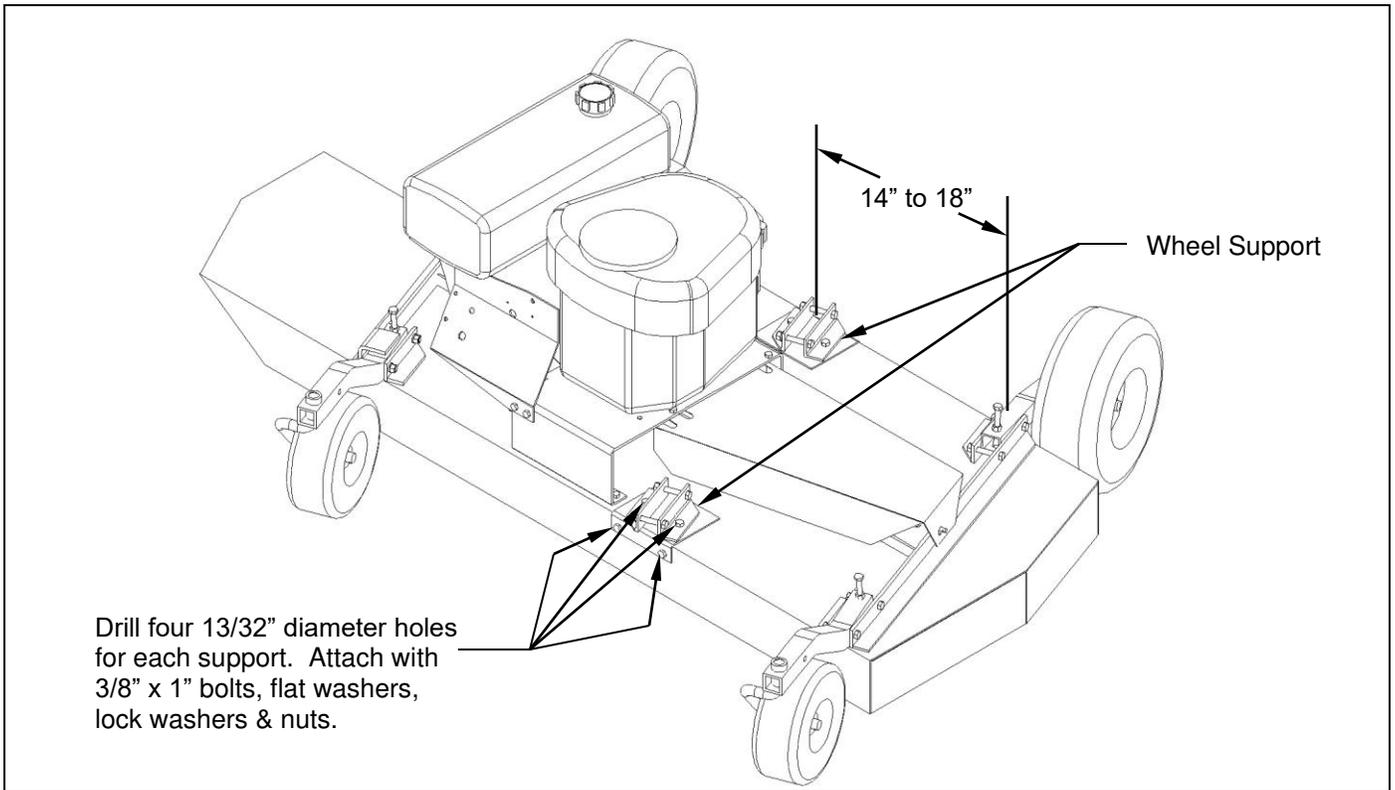

Figure 1: Installation of wheel supports
**A. INSTALL WHEEL SUPPORTS (Refer to Figure 1)**